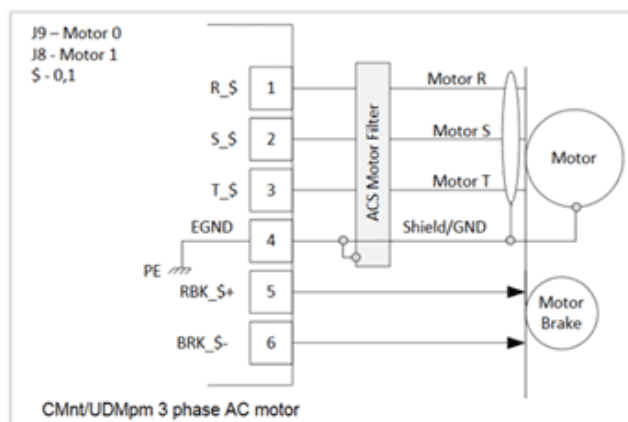

Figure 5-18. Three-phase motor connection
A three-phase motor connection is depicted in Figure 5-18. An optional motor filter is shown in series between the drive and the motor. Use a shielded cable, terminated in the EGND pin which is internally connected to the chassis (PE). If needed, the shield/GND may be connected to the motor’s chassis to provide a seamless common ground reference.